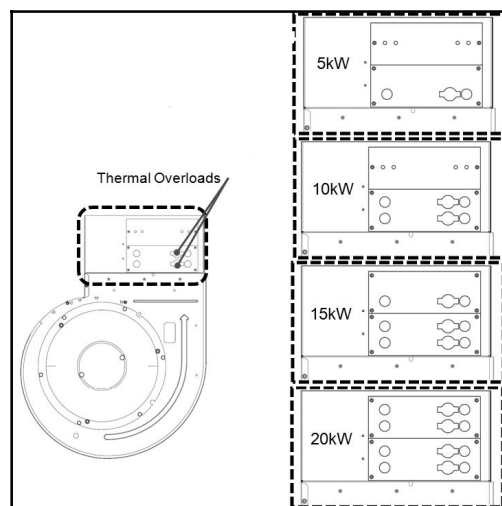

Fig. 7 — Thermal Overloads Cut-Outs
6. In preparation for heater element installation, orient the heating elements with thermal overloads (cut-outs) as shown in Fig. 7. This will ensure the heater elements are exposed to airflow.
IMPORTANT: If only one heating element is being installed, install it into the position closest to the blower wheel. Cover remaining opening with one of the cover plates removed in step 5. See Fig. 7.